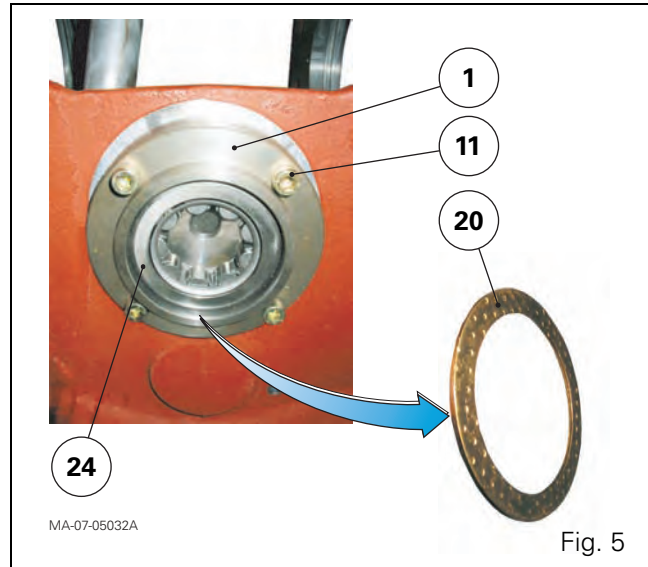

Fig. 5
10. Grease the interchangeable output shaft (13) with clean transmission oil. Engage it in the bores of the driven pinions (18) (7) and push home against the shoulder of the splined sleeve (5).
11. Refit the snap ring (6).
12. Lightly smear the friction washer (20) with miscible grease. Place this washer against the cylindrical roller bearing (24) (Fig. 5).